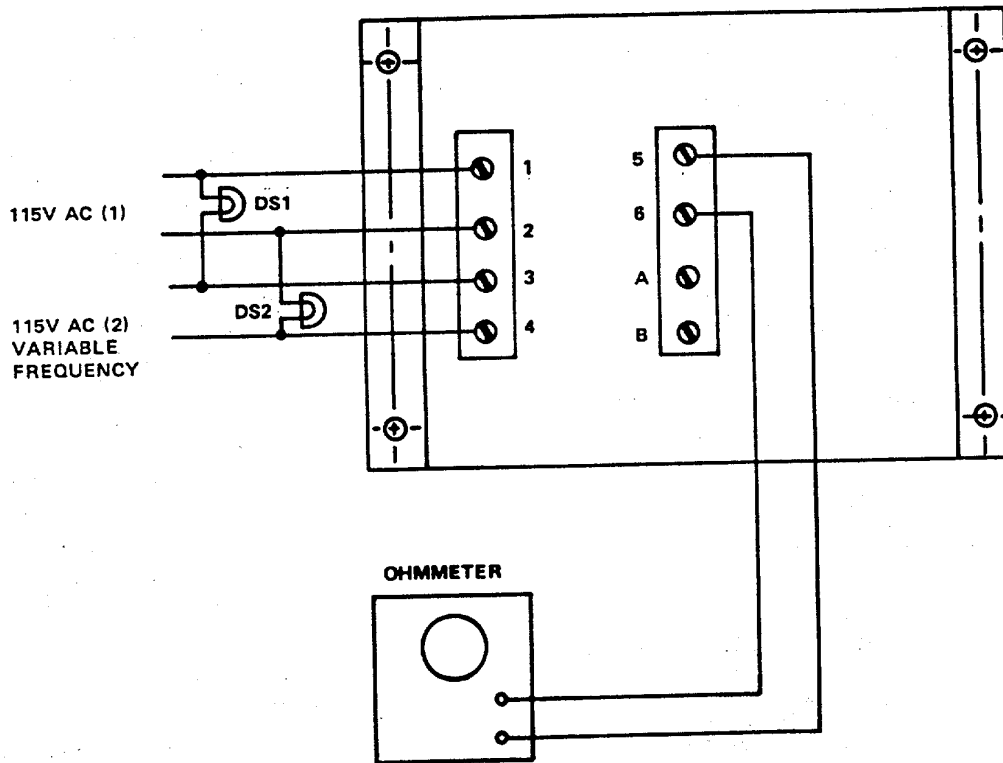

Figure 5-9. Sync Check Relay K106, Test Setup
- (1) Test. To test relay K106, connect as shown in test setup, figure 5-9. Two separate 115V AC sources are required: (1) a fixed frequency 115V AC 50/60 HZ source, and (2) a variable frequency 115V AC source. Two lamps connected in parallel across the two sources are also required. When the lamps turn off together, the 115V AC sources are synchronized. The ohmmeter must show continuity, indicating that the relay contacts are closed. Perform this test at both 50 and 60 HZ frequencies. If lights fail to turn off together while variable frequency source is within tolerance (47.5 to 52.5 Hz for 50 Hz test, 57.5 to 62.5 Hz for 60 Hz test), K106 is defective and must be replaced.